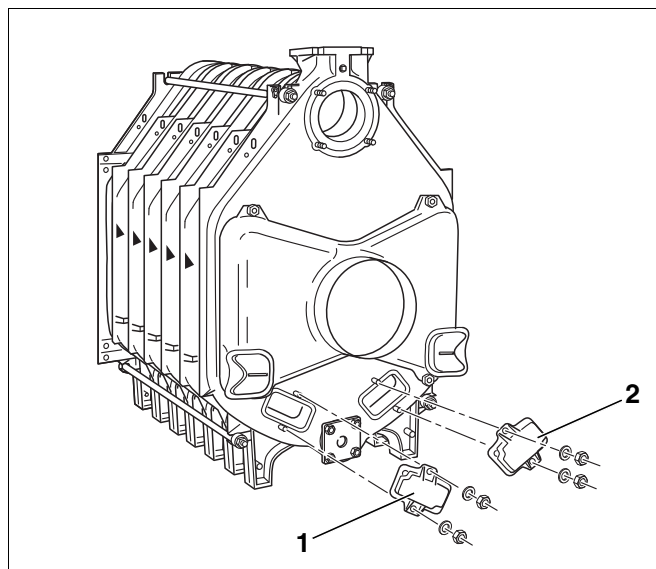

Fig. 30 Fitting the cleaning cover
- Screw the cleaning access covers with washers and nuts back onto the rear section (Fig. 30, [1] and [2]).